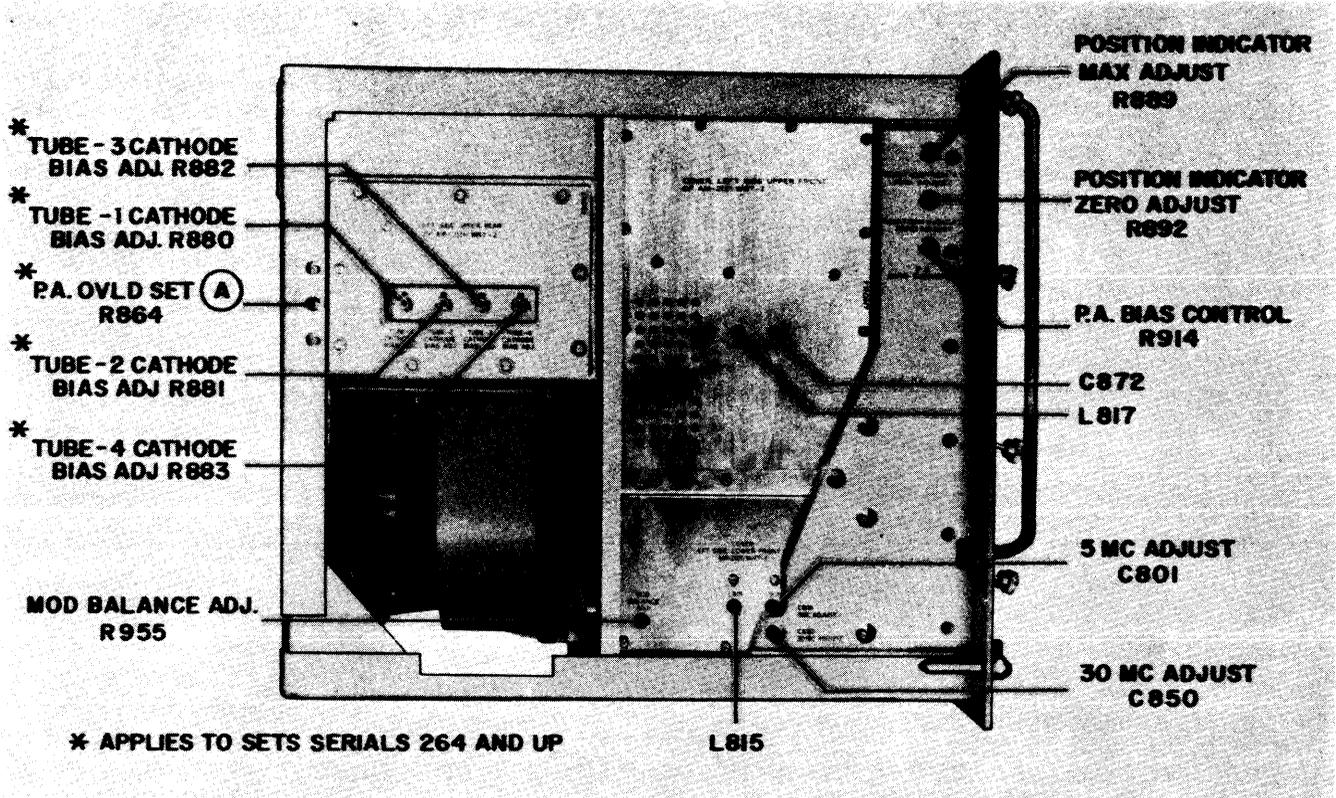

Figure 6-11. Radio Frequency Amplifier AM-2121/WRT-2 Left Side of Chassis,
AM-2121/WRT-2 refer to figures 6-11 and 6-12 for location of adjustments.
Step 2. Set TRIP ADJUST potentiometer R928 fully counterclockwise and set SWR RELAY ADJUST potentiometer R927 fully clockwise. (The adjustments are located in the reflectometer chassis—see figure 6-11.)
Step 3. Energize the equipment and tune up the transmitter at an operating frequency of 15.0 mc in accordance with the instructions given in paragraphs 3-2b(1) and (2) of Section 3. PROCEED WITH THE TUNING PROCEDURE ONLY THROUGH STEP 17.
Step 5. Reduce the drive (DRIVE ADJUST control R986) and detune the P.A. TUNING CONTROL (G) to about 5.0 mc. Adjust P.A. BIAS CONTROL potentiometer R914 to give the maximum total cathode current reading on meter M802. Then increase the drive until meter M802 indicates 850-ma total cathode current.
(5) POWER AMPLIFIER ALIGNMENT.